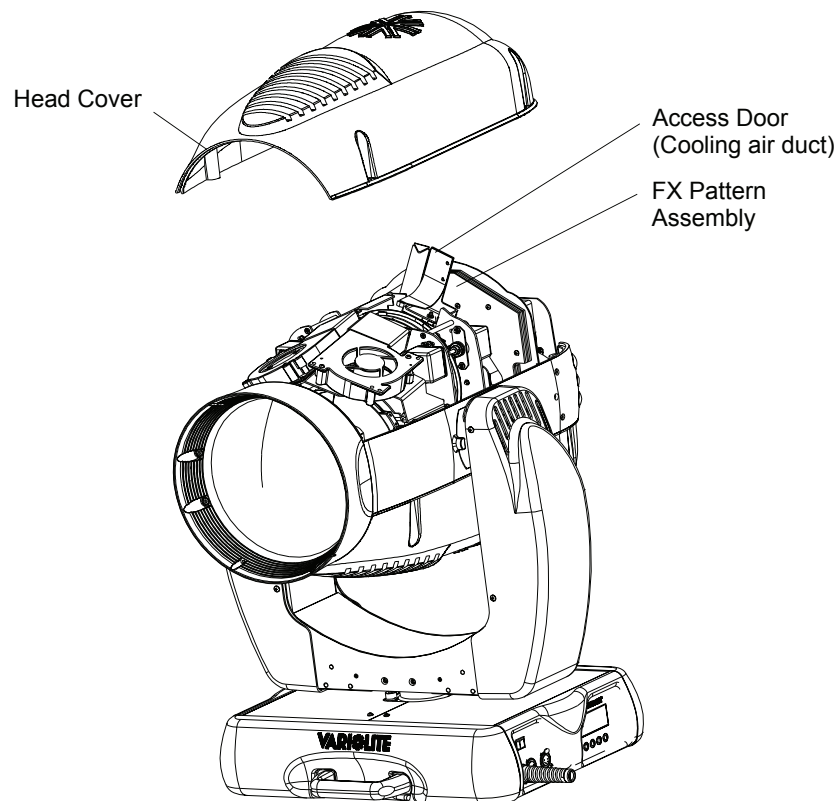

Figure A-6: VL3500 Wash FX Pattern Replacement
Step 3. As shown in Figure A-6, open door on the cooling-air duct.